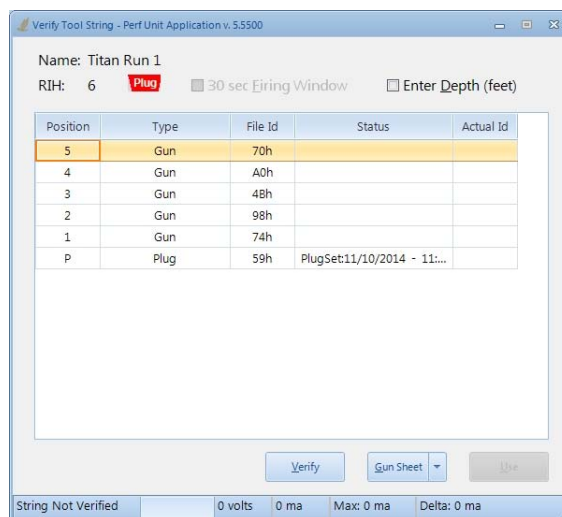

Figure 42
2. From the Perf Unit Setup screen, select the **Verify Tool String** button. The results of this action are seen in Figure 42.